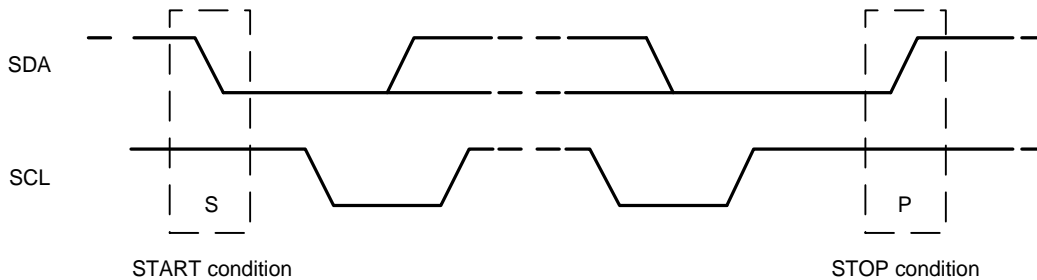

Figure 8. START and STOP Conditions
Communication on the I2C bus starts when the master puts the START condition (S) on the bus, which is defined as a HIGH-to-LOW transition of the SDA line while SCL line is HIGH (see figure below). The bus is considered to be busy until the master puts a STOP condition (P) on the bus, which is defined as a LOW to HIGH transition on the SDA line while SCL is HIGH (see Figure 8).